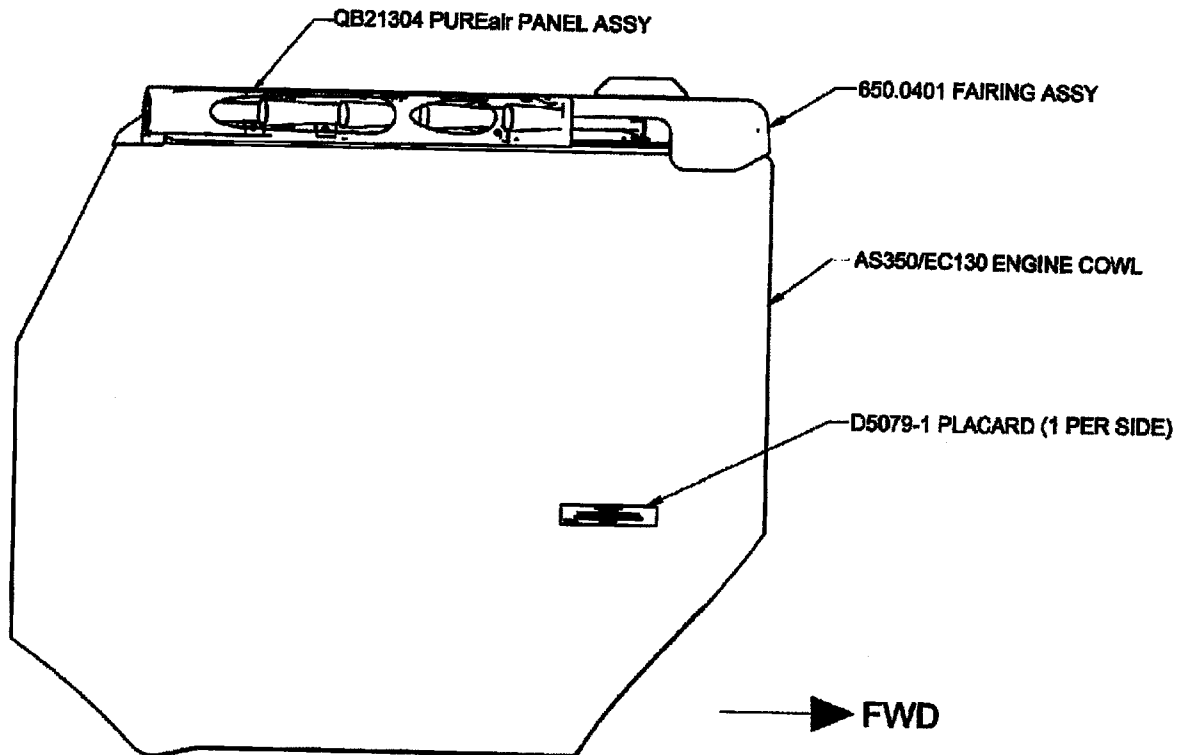

FIGURE 1 - D5079-1 PLACARD
3. Remove the D5079-1 Placards shown in Figure 1.